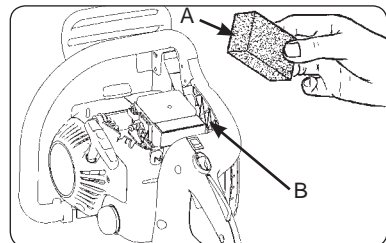

Fig. 18
- Remove the top cover (9) by loosening the cover retaining screws. Cover will lift off.
- Lift the air filter (A) out of air-box (B) (Fig. 18).